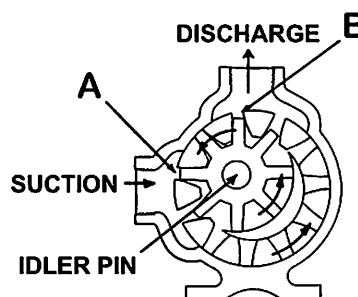

FIGURE 3
4. **Suction/Discharge** - shaft rotation will determine which port is suction and which is discharge. A look at Figure 3 will show how rotation determines which port is which; as the pumping elements (gears) come out of mesh, point "A" on Figure 3, liquid is drawn into the suction port; as the gears come into